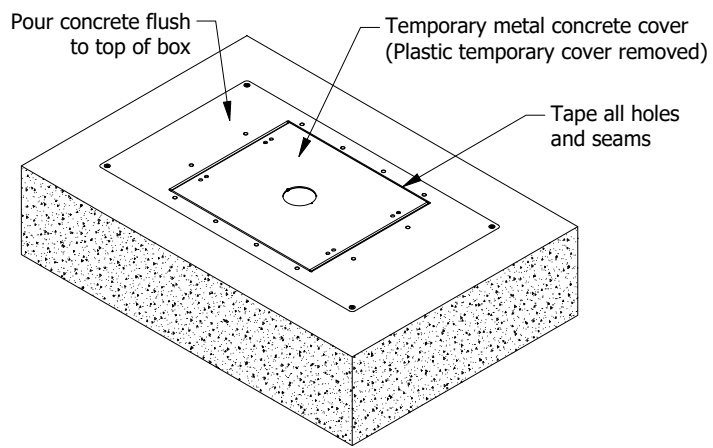

FIGURE 1 - Pre-pour configuration without Plastic cover
**BEFORE CONCRETE POUR, SEE FIGURES 1, 2, 3, A, B, C, D, E, and F**
See Figures 1 or 2 for configuration of concrete covers. For installation applications of FLUSH or FLAT flange styles, see Figs. A, B, C, D, E and F.